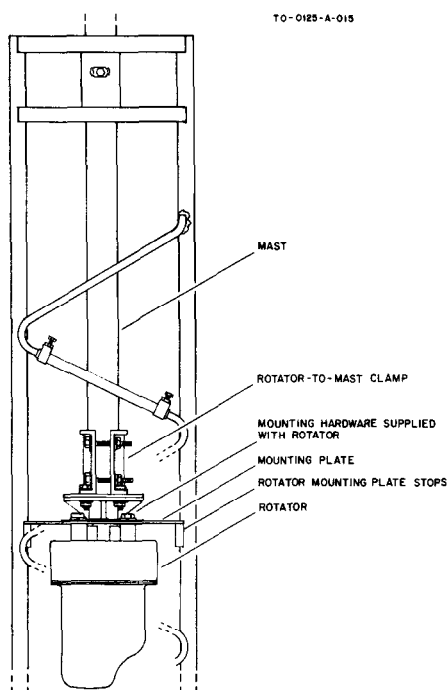

Figure A-2
- For a rotator that installs below the mounting plate follow the steps below and refer to Figure A-2.
4. Assemble the rotator-to-mast, mast platform and mast as shown in Figure A-2.